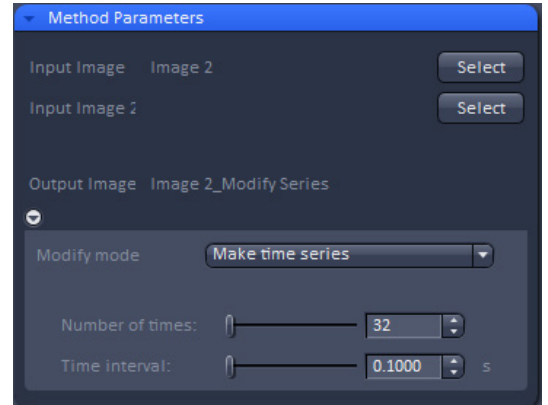

Fig. 509 Methods Parameter with Make time series selected in Modify mode
- Generate reference time series. In the Processing tool **Modify** choose under **Modify mode** the entry **Make time series**. Select the extracted image. Enter under **Number of times** and **Time intervals** the numbers from your original time series (Fig. 509) and press **Apply**. The result will be a time series with the same image at each time point.